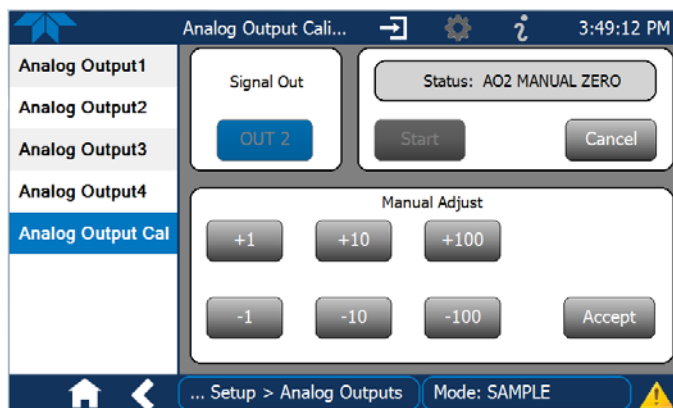
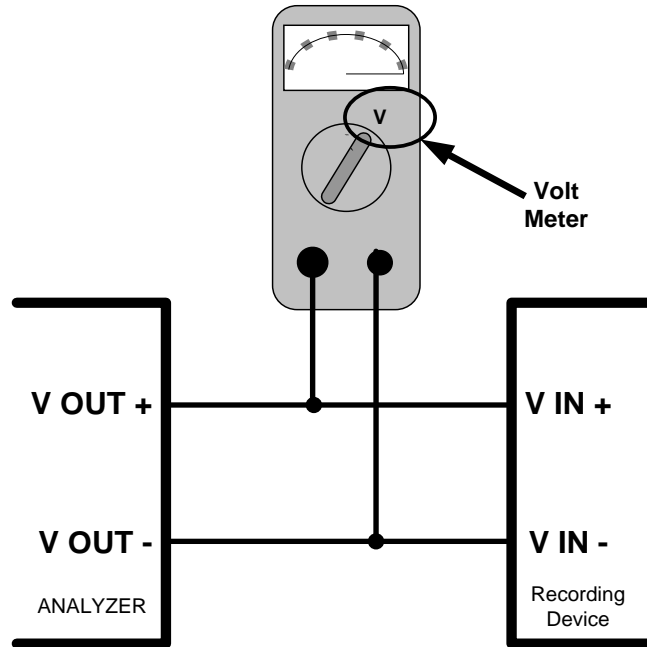

Figure 2-51. Analog Outputs Manual Calibration Screen (AO2 Example)
Figure 2-52. Setup for Checking / Calibrating DCV Analog Output Signal Levels
- MANUAL for individual calibration (Figure 2-51) of analog outputs where manual adjustments can be made (the only calibration type allowed when Current is selected for the Range). See Sections 2.5.8.1 and 2.5.8.2 .
It is possible to manually calibrate the voltages by using a voltmeter connected across the output terminals (Figure 2-52) and changing the output signal level in the Manual Adjust field of the Analog Outputs Calibration screen (Figure 2-51). Refer to Table 2-13 for voltage tolerances.